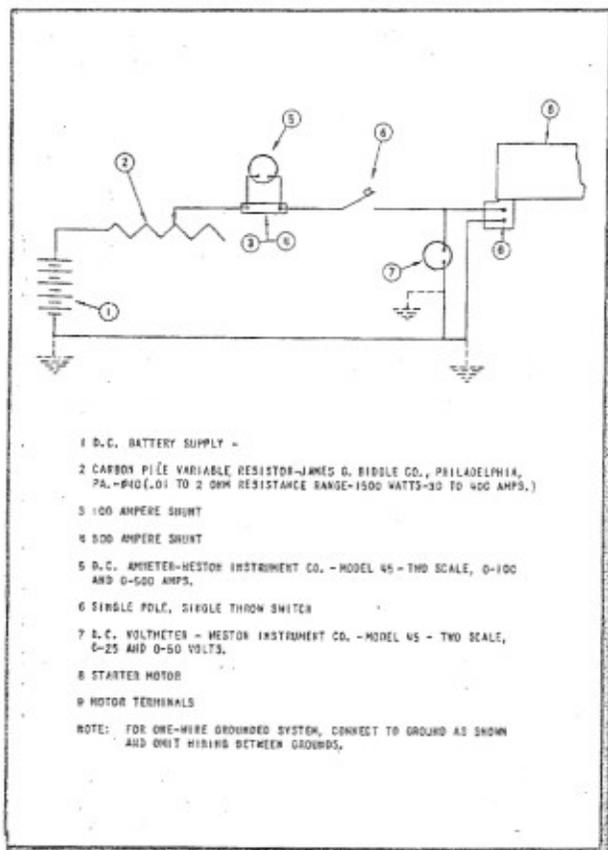
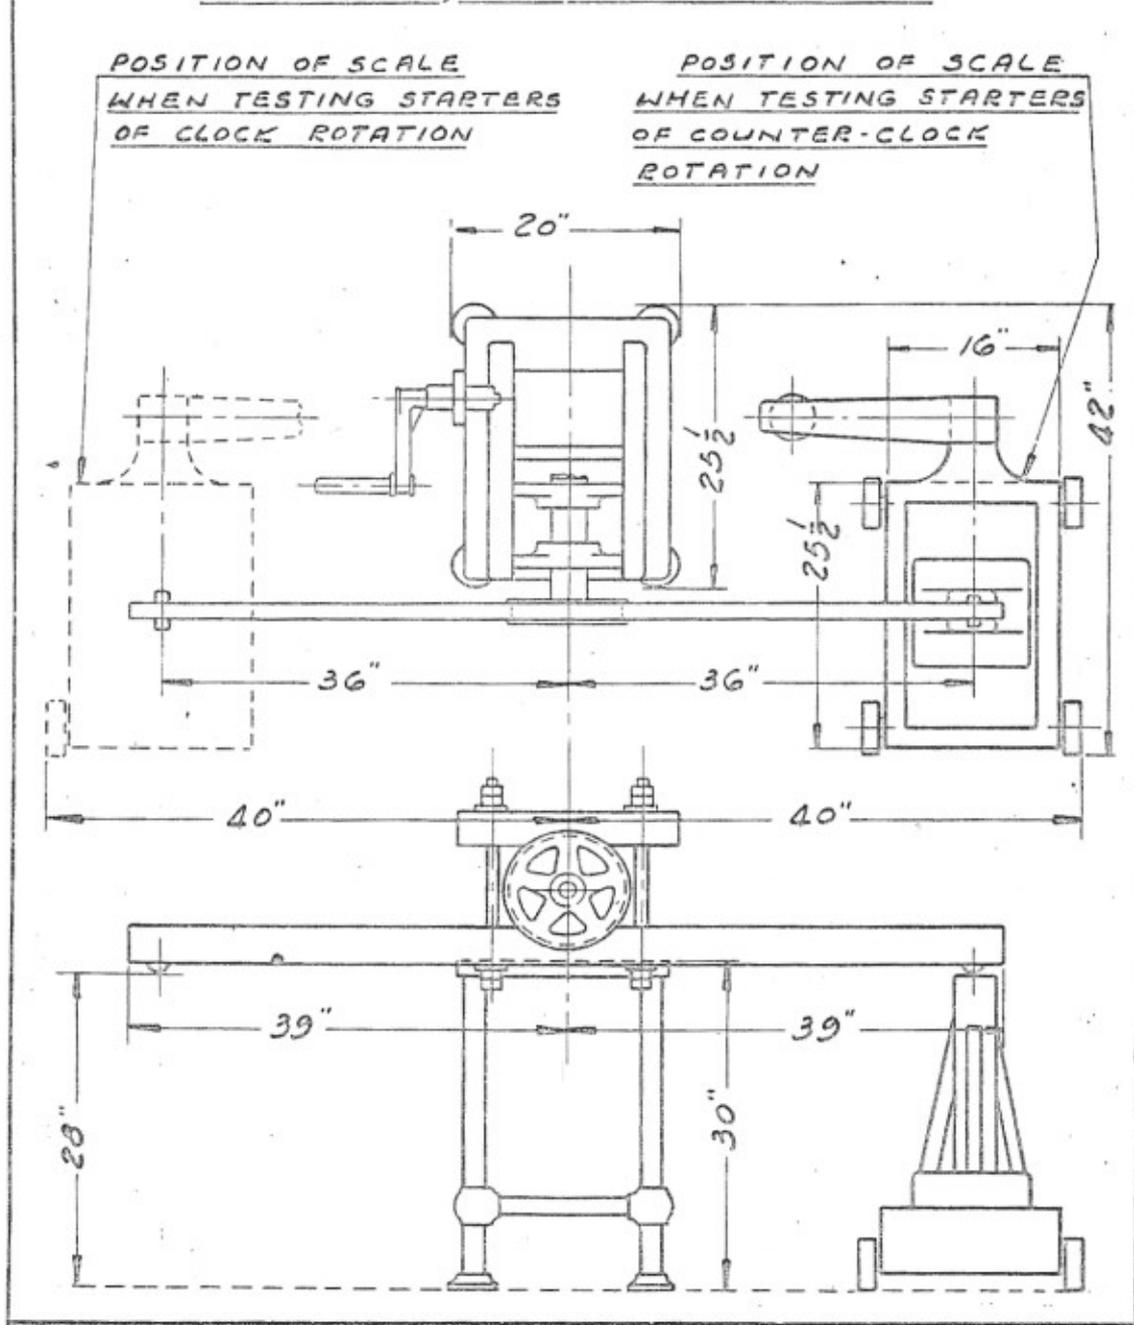

Figure 2—Electrical Test Set-Up
Figure 3—Schematic Diagram of Prony Brake Test Stand MT-327
a. ELECTRICAL CONNECTIONS.—Refer to test diagram, figure 2, and connect the d-c power supply (1), which may be either a battery or a motor generator, through the carbon stack variable resistor (2), a Weston model 45 ammeter (0-100) scale using a 100-ampere shunt, and a single pole single throw switch (6), from which a lead is connected to one of the starter terminals. Connect a Weston model 45 voltmeter across the motor terminals as shown.
a. **GENERAL.**—In order to check or adjust starter clutches and to test the units for proper operation after reassembly, a Prony brake test stand (MT-327) with a platform scale is required as shown in the schematic diagram, figure 3. With the baffle plate removed, mount the starter on test stand and adjust mounting bracket of stand so that the distance between the starter jaw and the test stand jaw is  $\frac{3}{32}$  inch when starter jaw is retracted fully. Removal of baffle plate necessitates manual engagement of starter jaw. When adjusting starter clutch, as outlined below, care should be taken to gradually attain the required setting **WITHOUT OVERHEATING.**
Connect the starter motor as instructed under paragraph 11., this section (figure 2), and assemble unit on Prony brake test stand. (See figure 3.) Using the 500-ampere shunt on the ammeter, proceed as follows: